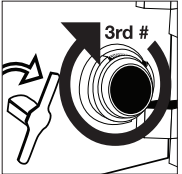

Figure 4
4. Turn the dial right stopping at the third number first time (Figure 4).